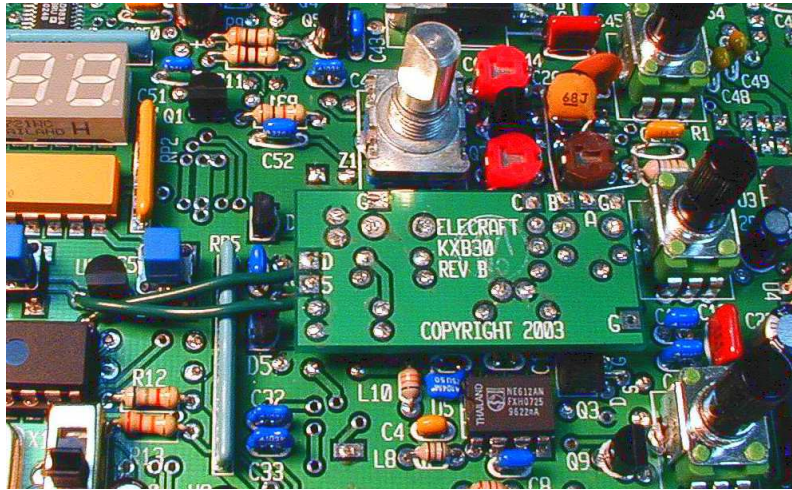

Figure 1
- The KXB30 module will be installed *upside-down* in the position showed in **Figure 1** on the next page, directly on top of U6. To verify that there are no obstructions, temporarily place the KXB30 in this location. The *D* and *5* pads should be to the left. The trimmer capacitors (C1 and C2) must line up with the two large holes in the KX1 board (on either side of U6). Turn the KX1 over to verify this.